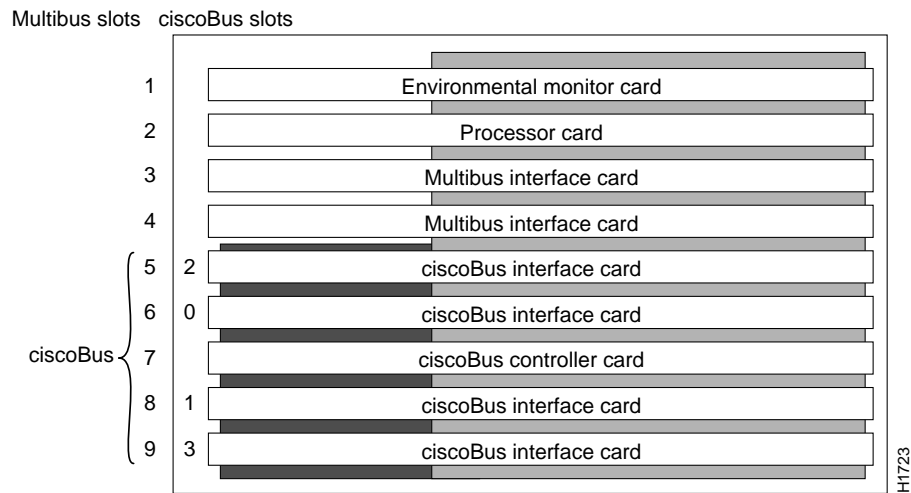

Figure 2 AGS+ Card Cage
The ciscoBus controller card (CSC-CCTL or CSC-CCTL2) is always installed in the center ciscoBus slot (Multibus slot number 7) as shown in Figure 2. After you verify that the LEDs come on correctly, use the **show controller cbus** command to display the new microcode version.
- Ensure that the ciscoBus controller card is in the center ciscoBus slot, as shown in Figure 2.